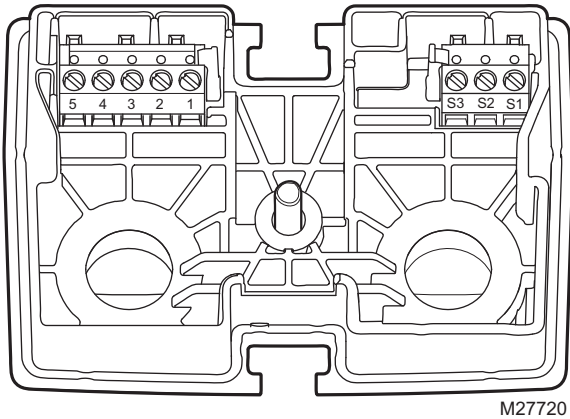

Fig. 9. Terminal block details.
6. Connect wires as appropriate to the terminal block(s). (See Fig. 9 and 10.)
See Fig. 9 through 21 for typical wiring details.